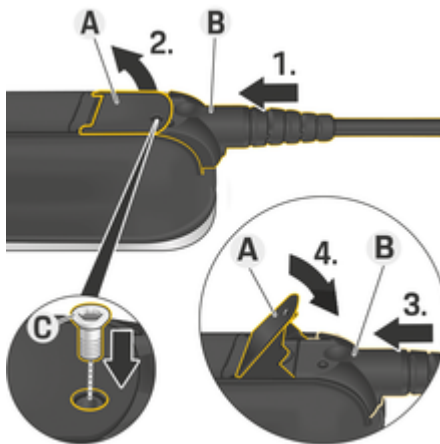

Fig. 38: Connecting cables and securing plugs
- ✓ Lever **A** (Fig. 38) is closed.
1. Insert plug **B** (Fig. 38) into the control unit until you first feel resistance.
2. Lift lever **A** (Fig. 38).
3. Push plug **B** (Fig. 38) in fully.
4. Close lever **A** (Fig. 38).
5. Secure plug **B** (Fig. 38) to the control unit using screw **C** (Fig. 38).